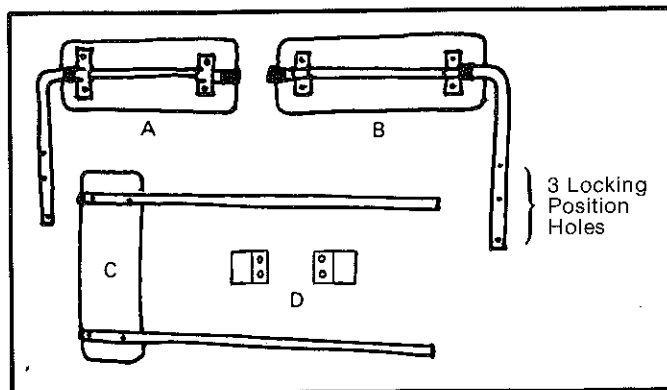

Figure 2-11
5. Obtain arm rests and leg support from accessory items contained in the lift conversion kit, Figure 2-11, items: